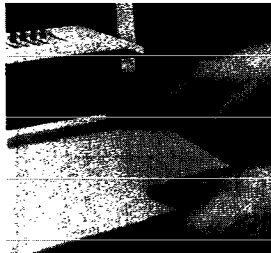

Figure 4.2
4. Place your unpunched book, covers included, under the Binder Size Guide and push the Binder Size Guide straight down until it contacts the top cover of your book (Figure 4.2). A color coded scale will be exposed. The top edge of the slide will reveal a series of binder selection zones (the distance between 2 black lines). To read the Binder Size Guide and insure using the proper binding element, look at the diameter size immediately above the slide. This is the binding element you should use. When the top of the Binder Size Guide falls on a line, use the next size larger binding element.